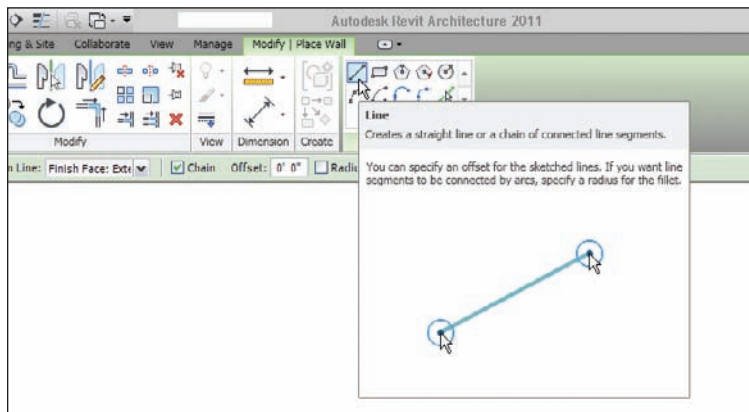

FIGURE 1.17 You can draw any shape you need.
4. In the Draw panel, there is a series of sketch options. Because this specific wall is straight, make sure the Line button is selected, as shown in Figure 1.17.